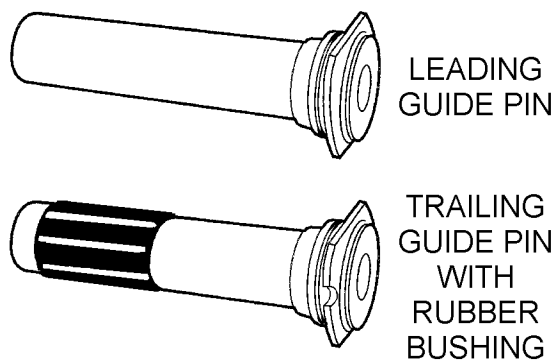

Figure 67 Leading Guide Pin and Trailing Guide Pin with Rubber Bushing
2. If guide pins are being replaced with new guide pins (Figure 67) (See Figure 67, page 72). Pull guide pin boots (Item 4) off anchor plate (Item 1) or old guide pins and check for damage or defects. If damage or defects are found, they must be replaced. If guide pin boots are not damaged or defective, wash them in soapy water and dry them. Once again, after the guide pin boots have been cleaned and dried, inspect them for damage or defects. If damage or defects are found, they must be replaced. Refer to ANCHOR PLATE AND SPLASH SHIELD, Disassemble (See ANCHOR PLATE AND SPLASH SHIELD, page 44), ANCHOR PLATE AND SPLASH SHIELD, Clean and Inspect (See ANCHOR PLATE AND SPLASH SHIELD, page 51) and ANCHOR PLATE AND SPLASH SHIELD, Assemble (See ANCHOR PLATE AND SPLASH SHIELD, page 58) to remove and install guide pin boots.
7. If guide pins (Figure 67) (See Figure 67, page 72) are being replaced. Pull guide pin boots (Item 5) off anchor plate (Item 1) or guide pins (Item 4) and check for damage or defects. If damage or defects are found, they must be replaced. If guide pin boots are not damaged or defective, wash them in soapy water and dry them. Once again, after the guide pin boots have been cleaned and dried, inspect them for damage or defects. If damage or defects are found, they must be replaced. Refer to ANCHOR PLATE AND SPLASH SHIELD, Disassemble (See ANCHOR PLATE AND SPLASH SHIELD, page 44), ANCHOR PLATE AND SPLASH SHIELD, Clean and Inspect (See ANCHOR PLATE AND SPLASH SHIELD, page 51) and ANCHOR PLATE AND SPLASH SHIELD, Assemble (See ANCHOR PLATE AND SPLASH SHIELD, page 58) to disassemble, clean and inspect and assemble guide pin boots.